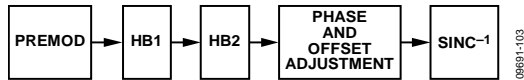

Figure 39. Block Diagram of Digital Datapath
The block diagram in Figure 39 shows the functionality of the digital datapath. The digital processing includes a premodulation block, two half-band (HB) interpolation filters, phase and offset adjustment blocks, and an inverse sinc filter.